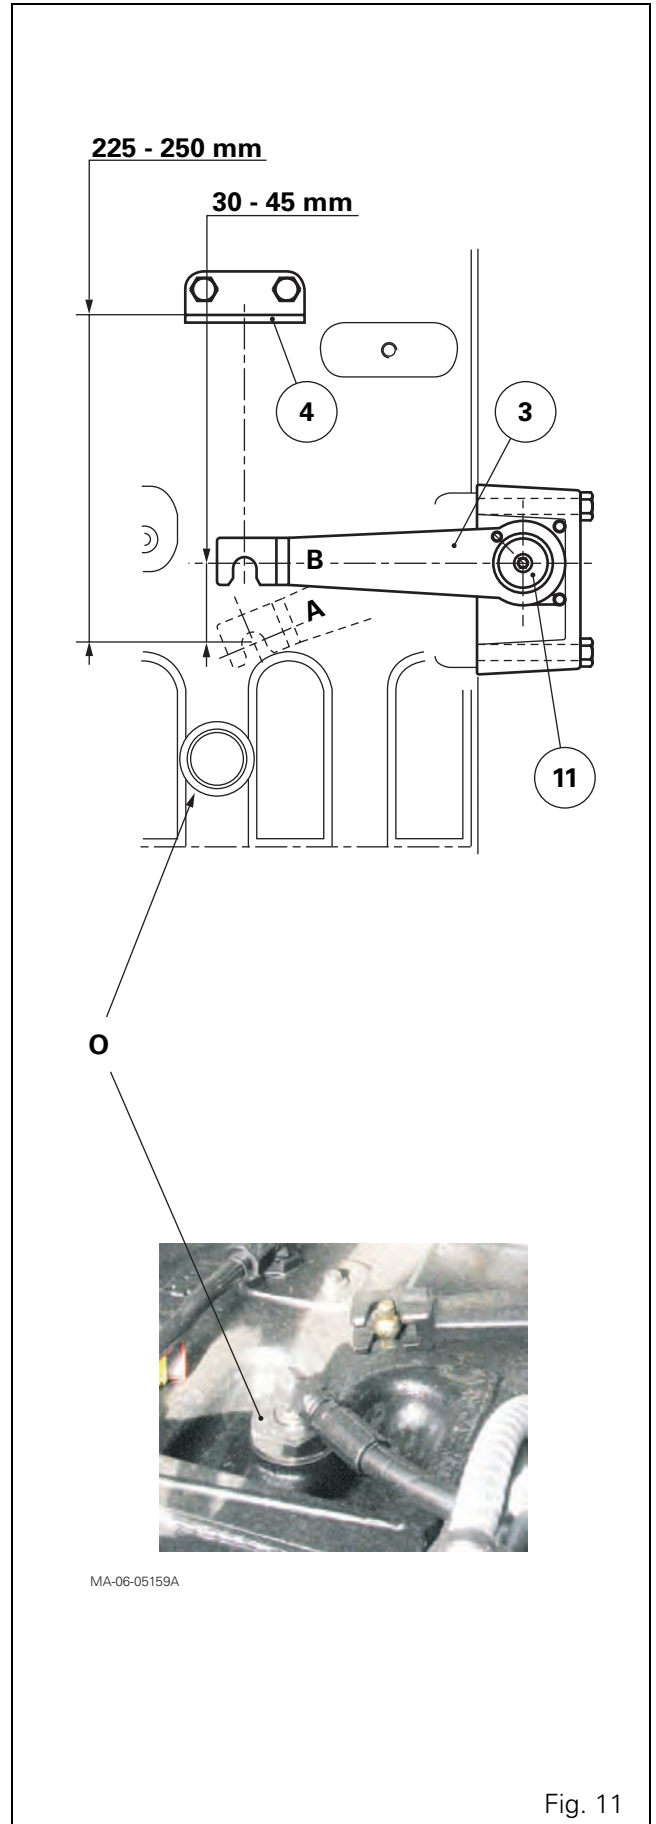

Fig. 11
NOTA: When the hydraulic cover does not need to be removed, the mechanism (16) can be adjusted without adjusting the clearance *J*, by directly adjusting link (3) travel according to the value indicated in operation 51. For this, using a locally made short spanner, directly adjust the special nut (21) through port 0 of the feed-through conduit located above the intermediate housing (Fig. 11). This feed-through conduit returns clean oil from the auxiliary spool valve quick-disconnect couplings to the return line.
46. Temporarily position the link (3) on the splined pin (11) of the cam (31) without the spring (32) such as to obtain a value of **225 to 250 mm** between the cable bearing pin on the link (3) and the external side of the support (4) (position A, Fig. 11).
47. Mark the position of the link (3) with respect to the pin (11). Remove the link.
51. Check that link travel falls between **30 and 45 mm** with a load of 10 - 25 daN applied at the point where the cable is fixed (position B, Fig. 11).